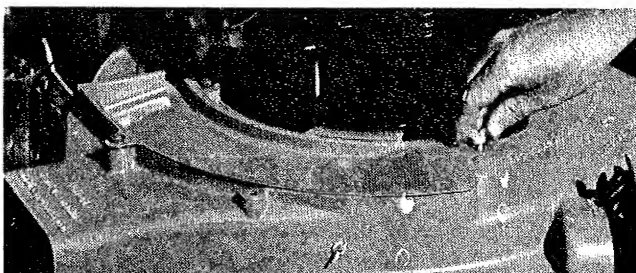

FIGURE 12
2. Remove the wing nut from the mower deck cover by turning in a counter-clockwise direction. Raise the housing cover slightly and pull it toward the left side of the mower to free the slotted tabs from the spring bolts. (See Figure 12).